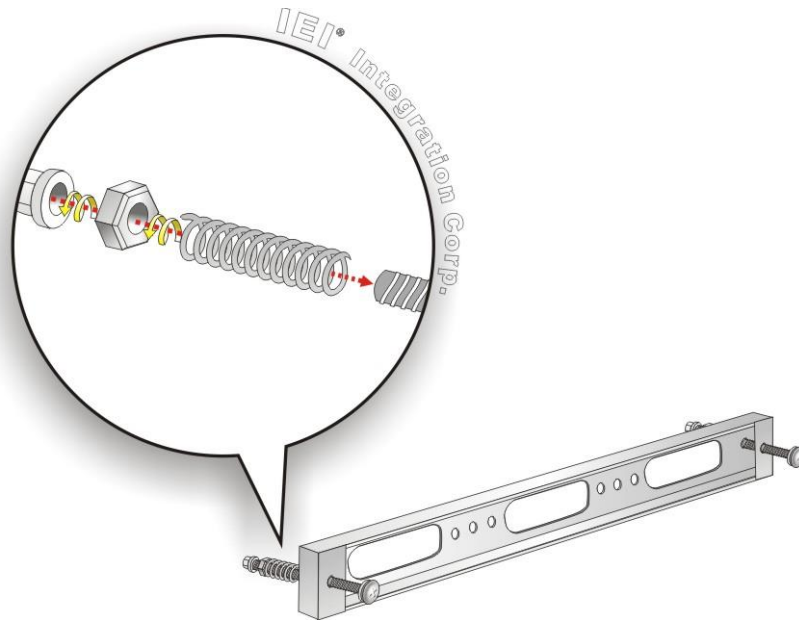

Figure 3-13: Rack Mounting Kit Installation
Step 2: Insert a M5*50 screw into the screw hole on the side of the rack mounting bracket. Then, install the following components onto the screw in sequence. See **Figure 3-13**.